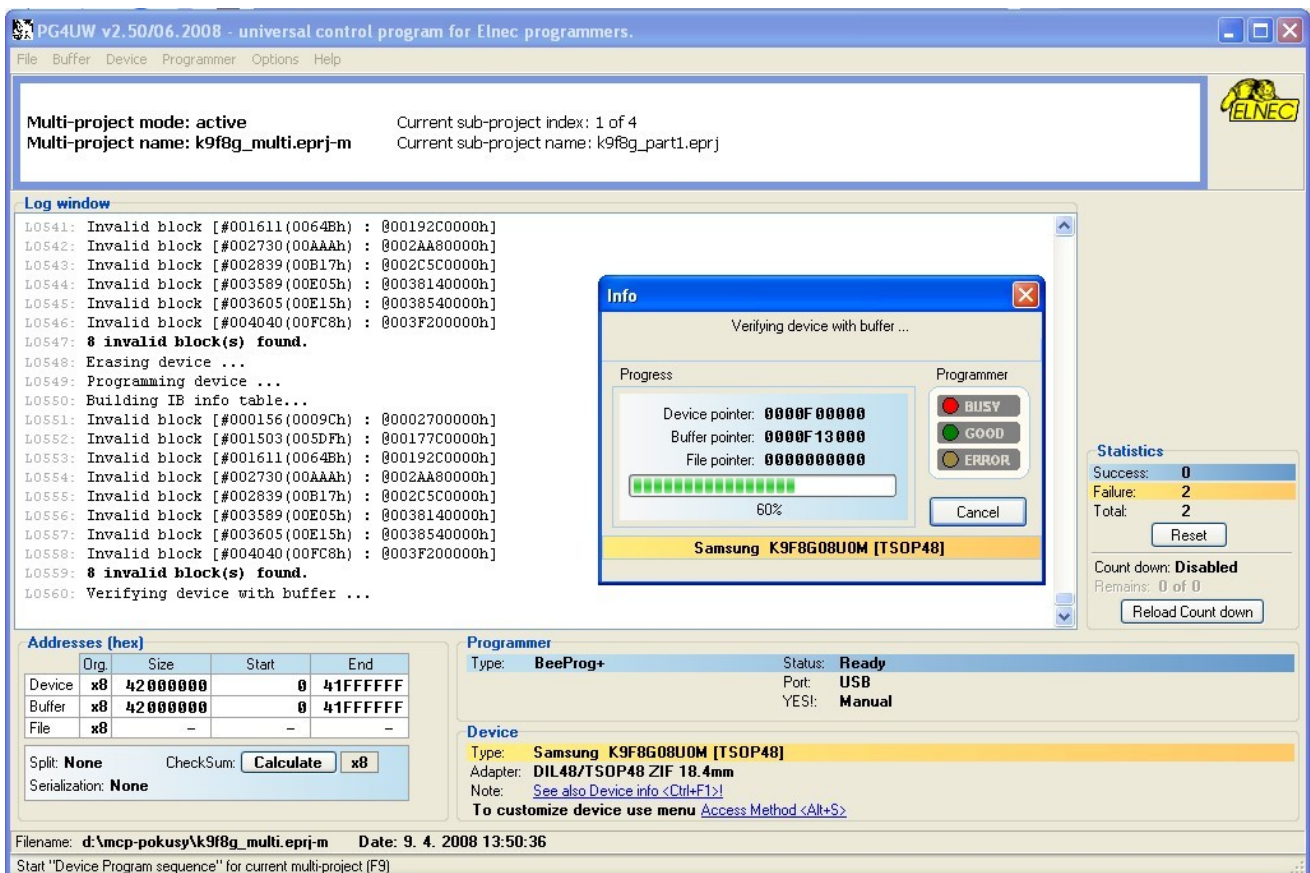

Figure 10: Processing the Multi-Project file – Project #1 of 4.
2. In the Multi-Project Wizard window, run desired multi-chip device operation using one of available device operation buttons (Blank, Verify, Program, Erase). Mostly the programming operation is used. Selected device operation is executed as sequence of Project file loading and consequent Sub-device operation for each Sub-device specified in the Multi-Project file (see Figure 10 and Figure 11). This is the main purpose of Multi-Project feature – to automate the sequence of device operations for each chip in the multi-chip device.